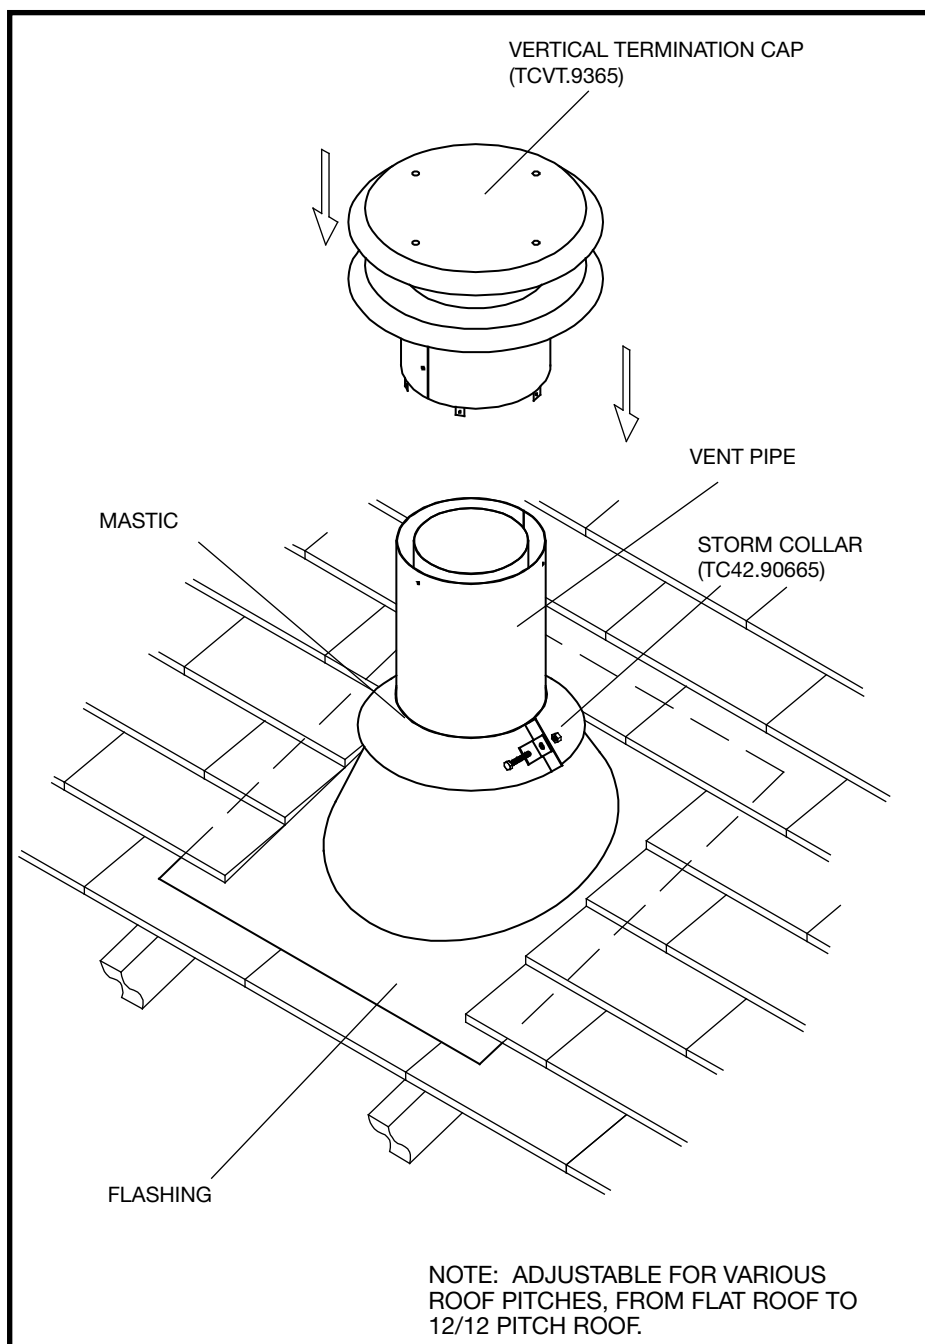

Figure 33: Roof vent terminal.
1. Place the roof flashing over the vent pipe, secure and seal it to the roof using the methods and materials appropriate for the type of roof on the building. Shingle roof example shown (Figure 33).
2. Place the storm collar down over the vent pipe until it is level. Tighten storm collar for a snug fit. Apply a thick horizontal ring of mastic around the pipe at top of the storm collar (Figure 33).
3. Lower the roof vent terminal cap over the vent pipe and secure in place with screws provided (Figure 33). Seal screw heads and joints with caulking to prevent any moisture entering the venting system.